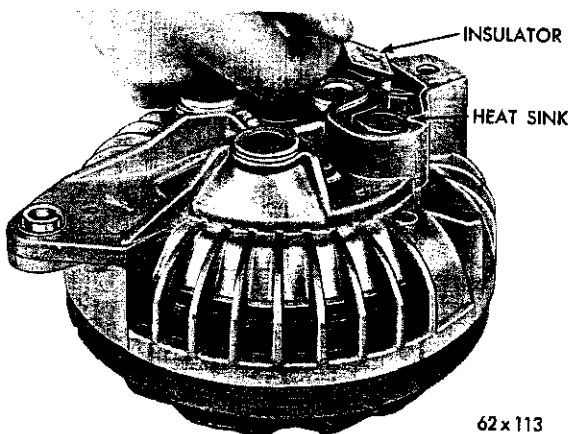

Fig. 61—Removing the Heat Sink Insulator
(9) Remove the insulator (Fig. 61).
(10) The needle roller bearing in the rectifier end shield is a press fit. If it is necessary to remove the